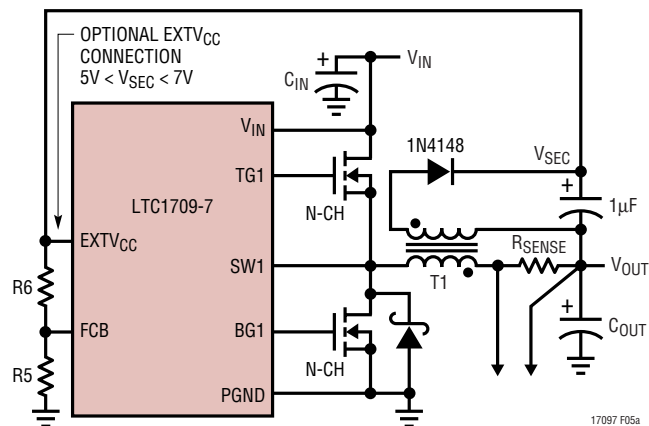
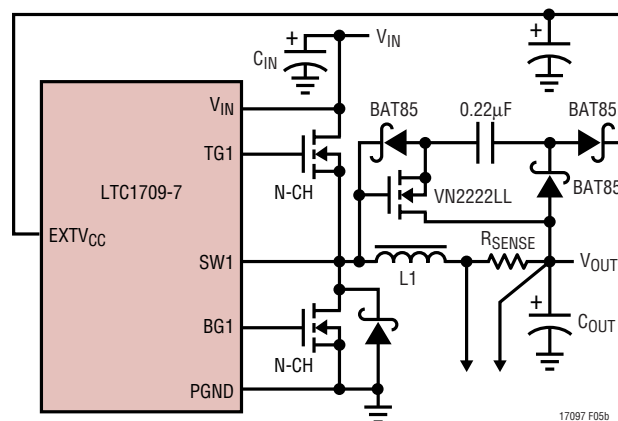

Figure 5a. Secondary Output Loop with EXTVCC Connection
Figure 5b. Capacitive Charge Pump for EXTVCC
4. EXTVCC connected to an output-derived boost network. For 3.3V and other low voltage regulators, efficiency gains can still be realized by connecting EXTVCC to an output-derived voltage which has been boosted to greater than 4.7V but less than 7V. This can be done with either the inductive boost winding as shown in Figure 5a or the capacitive charge pump shown in Figure 5b. The charge pump has the advantage of simple magnetics.
The secondary output voltage  $V_{SEC}$  is normally set as shown in Figure 5a by the turns ratio  $N$  of the transformer: